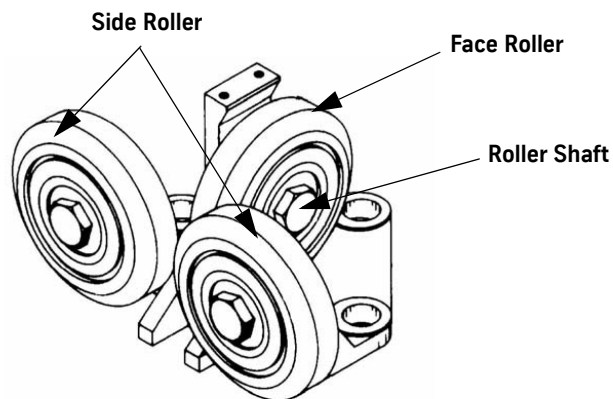

Figure 7 - Roller Guides on Counterweights
1. Loosen the locknuts and turn the roller shafts until maximum clearance between the rollers is obtained. See Figure 7.